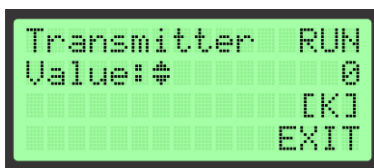

Figure 84 Changing Value
The user navigates through this submenu system by using Up (▲) and Down (▼), which allows him/her to adjust the output value, ranging from the adjusted Min. value to the adjusted Max. value (See *Figure 84*). By pressing Enter (E) the adjusted value will be confirmed.